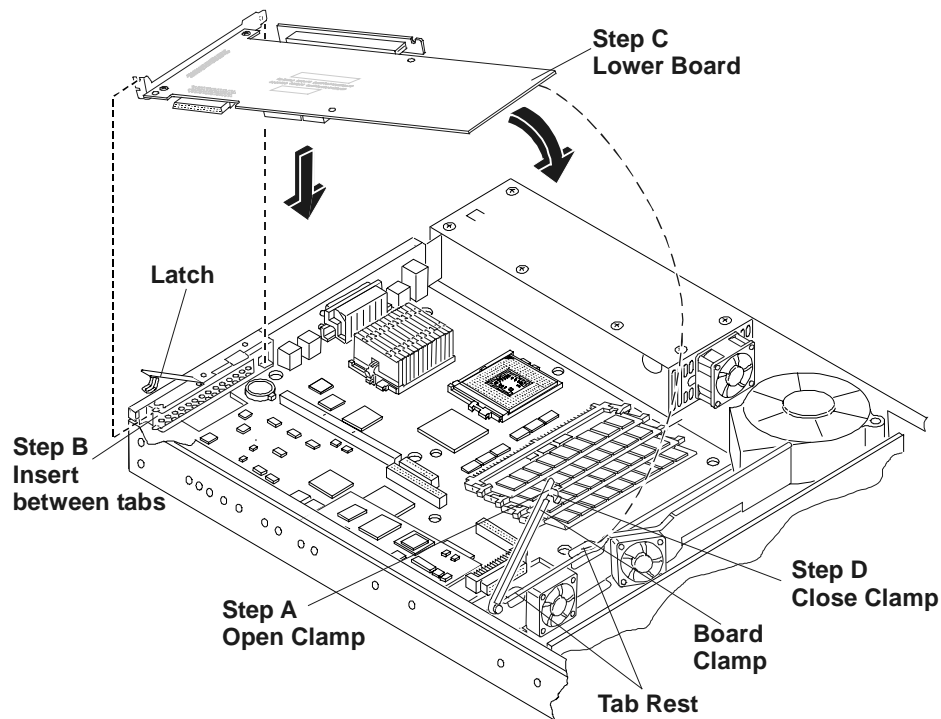

Figure 5-6. Clamping Long PCI Boards
14. If you have a longer PCI board, you must use the board clamp to install the board into the Netserver. See Figure 5-6.
- a. Raise the board clamp before installing the PCI board. See Figure 5-6.
- c. Lower the PCI board onto the tab rests. See Figure 5-6.
- d. Close the latch and then close the board clamp onto the edge of the PCI board. See Figure 5-6.